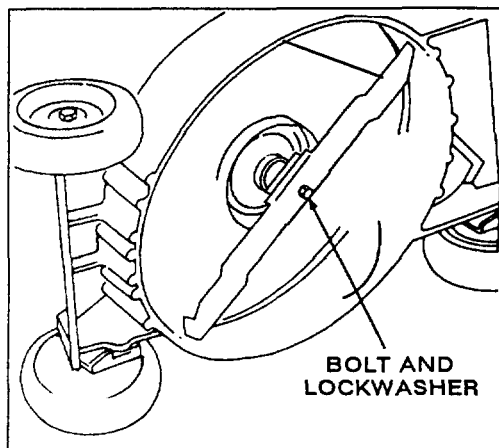

Figure 19
3. Tip mower on its right side (Fig. 19).
6. **REMOVING BLADE**—Grasp end of blade using a rag or thickly padded glove. Remove blade bolt, washer, and blade (Fig. 19).